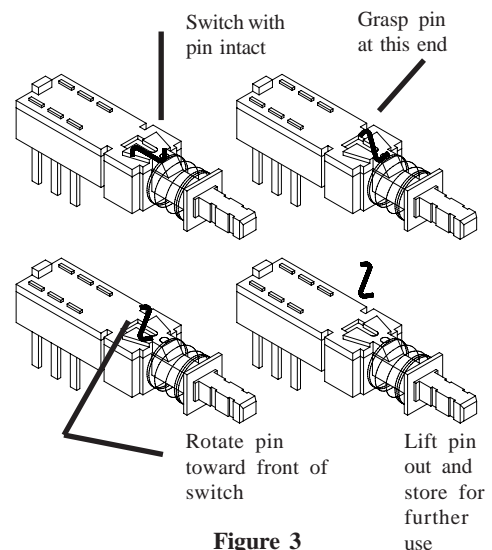

Figure 3
3. Remove the (4) screws holding the bezel to the extrusion.
5. Grasp the rear edge of the Power Distribution Circuit Board (on top), slide it back and lift it free from the (4) standoff fasteners holding it to the lower circuit board. Caution: The circuit board is still attached. See steps 6 & 7 below.
8. See Figure 3 for information on converting the switch. Once converted the switch may be converted back again if the toggle pin is not lost.